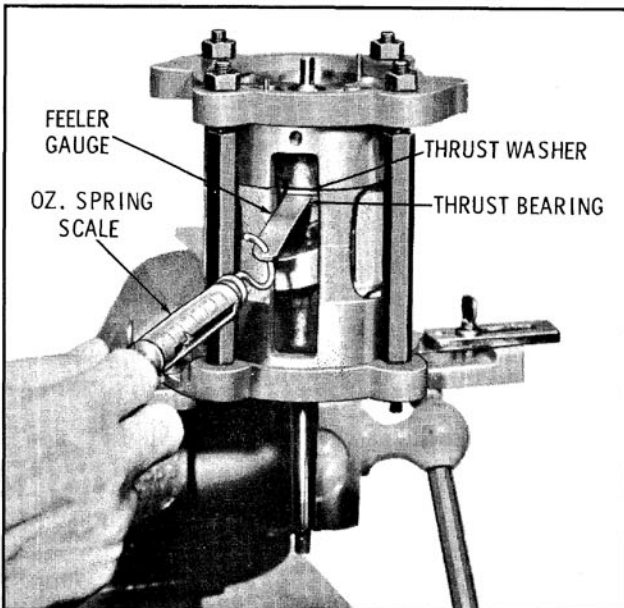

Fig. 14-120 Checking Drive Shaft End Play Clearance
13. To determine the clearance between the rear thrust bearing and the upper or outer-rear thrust race use a combination of feeler gauge leafs so that 4 to 8 oz. of force is required to pull gauge free. (Fig. 14-120)